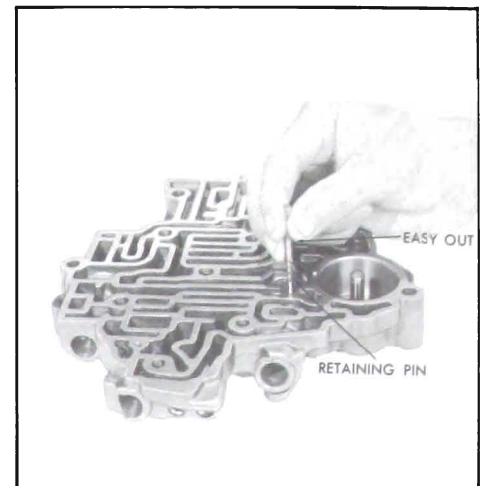

Figure 5-580
14. Remove the 1-2 accumulator secondary valve retainer pin from the machined face of the valve body with an easy-out type extractor and the 1-2 accumulator plug. See Figure 5-580.